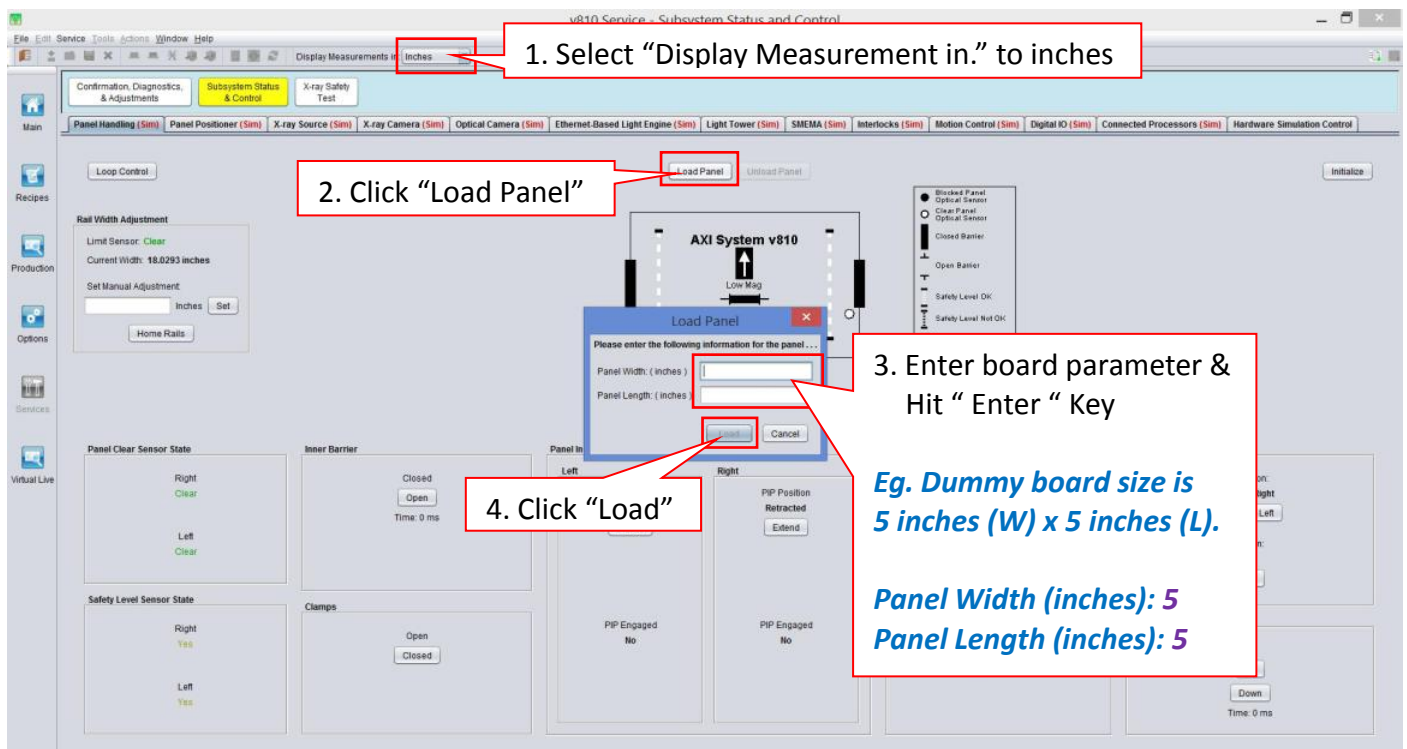

Figure 12 Panel Handling
10. Enter board parameter & click “Load” as shown in Figure 12.